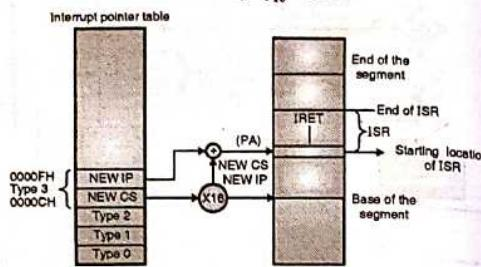

Fig. 7.4.2 : Pointing to ISR routine via interrupt vector table
- Then 0CH/0DH location will provide OFFSET IP (NEW IP) and 0EH/0FH will provide base address of the segment (NEW CS). The same is graphically presented in Fig. 7.4.2.